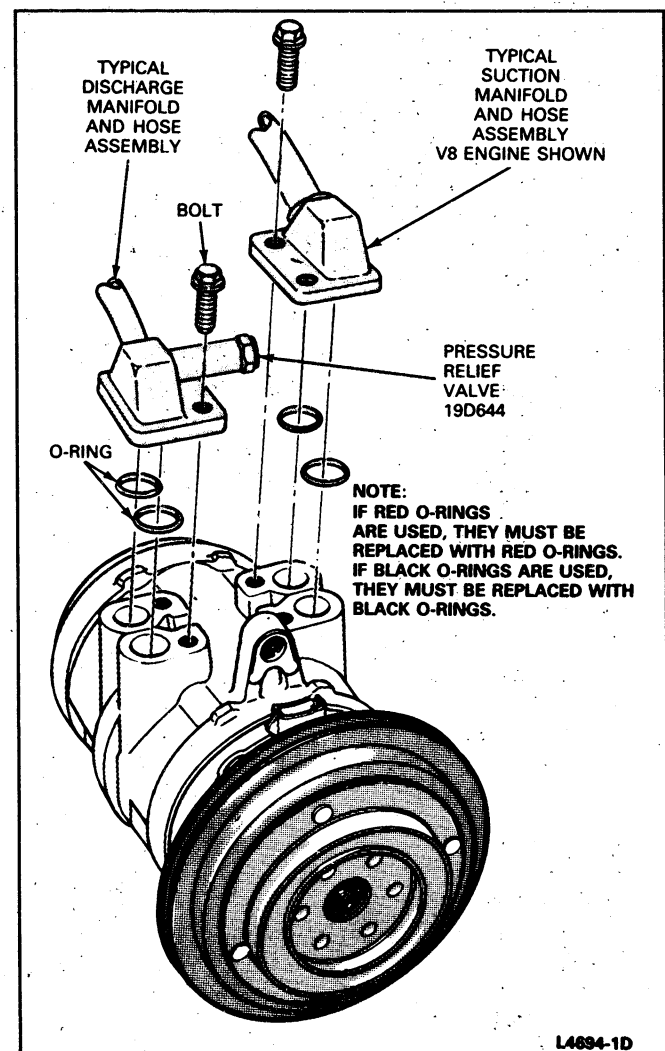

FIG. 3 Suction and Discharge Manifolds—Installation
2. Remove the two bolts attaching the manifold to the compressor and remove the manifold and O-rings (Fig. 3).